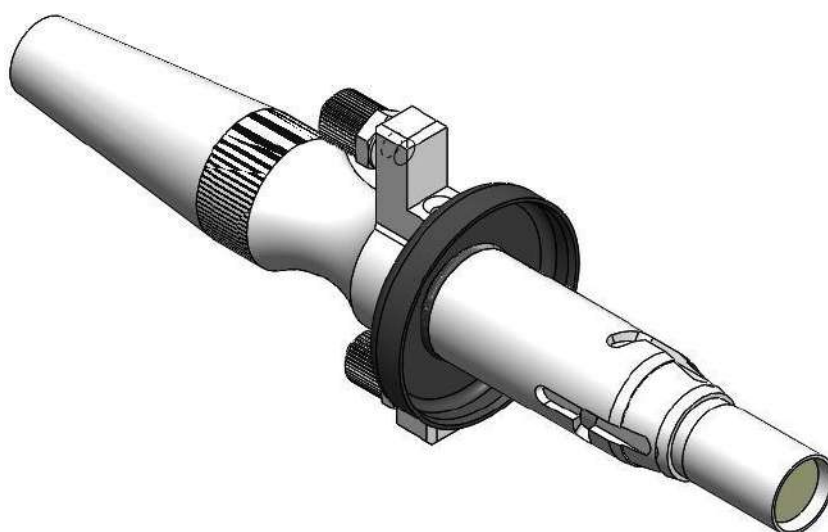

Figure 2.3
- ② Cover the dust-proof cover which is in the white accessory box onto the fiber laser tip, as shown in Figure 2.3: